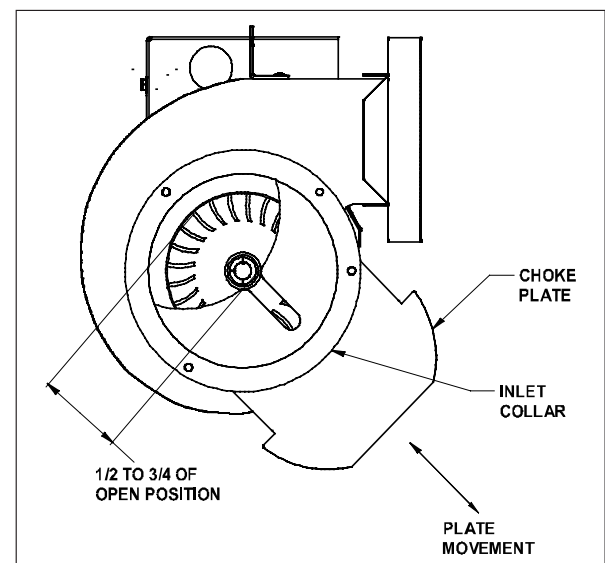

Figure 5
1. To adjust the power venter air flow, open the choke plate $\frac{1}{2}$ to $\frac{3}{4}$ of the way open (See Figure 5). Follow appliance manufacturer's procedures for starting the heating appliance. Then adjust the thermostat to call for heat.